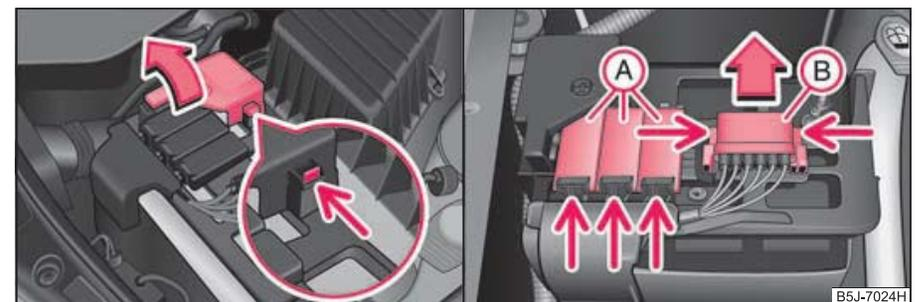

Fig. 167 The battery: Open the positive terminal cover/fuse cover
- Open the positive terminal cover (+) ⇒ page 189, fig. 167 - left.
- Press onto the interlocks of the fuse covers (A) ⇒ page 189, fig. 167 on the right and open the covers.
- Press together the interlocks of the fuse cover (B) simultaneously and push out the cover in the direction of the arrow.
- Some vehicles are only fitted with the cover (B) ⇒ page 189, fig. 167 on the right. ■